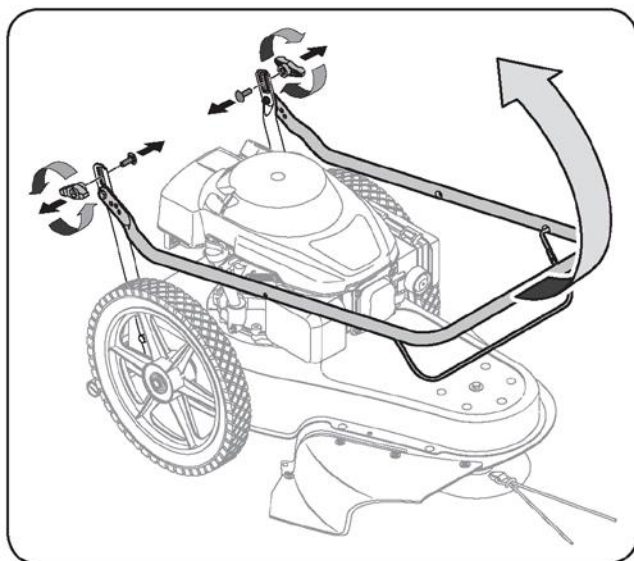

Figure 3-1
1. Please remove the airfoil knob and carriage screw from the lower left hand handle and lower right hand handle respectively. See figure 3-1.
2. Turn the upper handle into the working position. See figure 3-1.